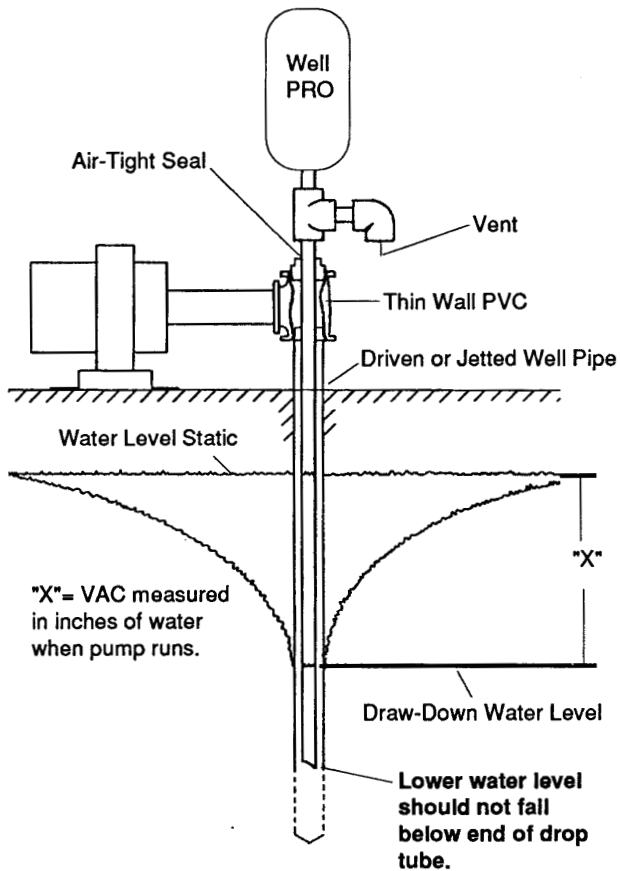

Figure 15
1. Construct the drop tube and vent assembly as shown in the detailed line drawing below. Refer to Figure 15.
3. Make sure the drop tube extends below the lowest draw-down level in the well. Refer to Figure 15.